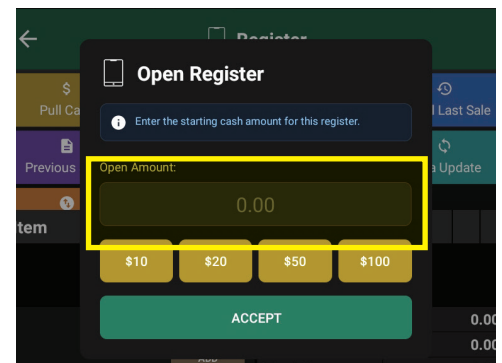

Figure 47
3. Enter the amount of starting cash and change in the till drawer (Figure 47).